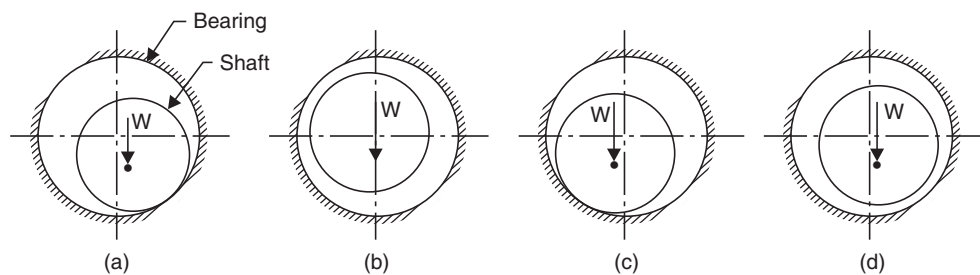

FIGURE 10.13
324. Figure 10.13 shows a shaft rotating in a fixed bearing subjected to steady load W . If the shaft is rotating in anticlockwise direction at slow speed then the correct position of shaft and bearing is given by
- (a) Fig. 10.13 (a) ☐ (b) Fig. 10.13 (b) ☐
(c) Fig. 10.13 (c) ☐ (d) Fig. 10.13 (d). ☐
325. The correct position of shaft and bearing, which shaft is rotating in anticlockwise direction at high speed will be (refer to Fig. 10.13).
326. The correct position of shaft and bearing, when shaft is rotating in clockwise direction at high speed will be (refer to Fig. 10.13).
327. The correct position of shaft and bearing, when shaft is rotating in clockwise direction at slow speed will be (refer to Fig. 10.13)